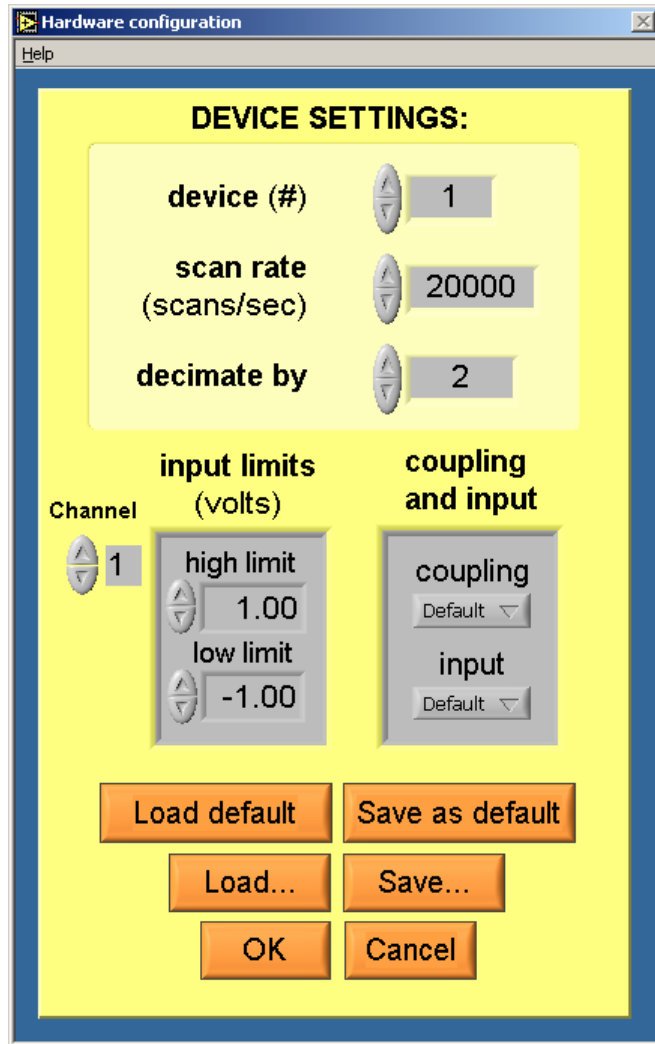
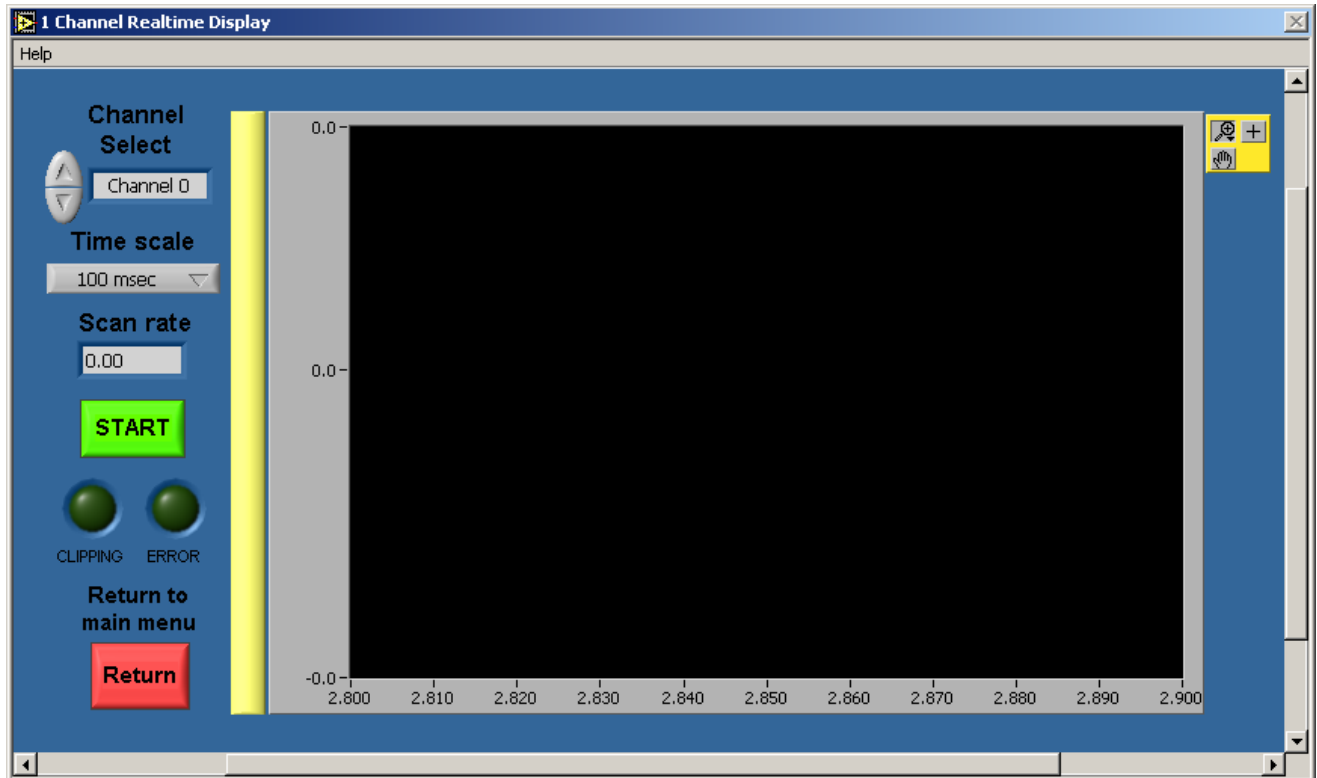

Figure 5.2. The hardware configuration screen.
Figure 5.3. Real time configuration screen.
The configuration screen is shown in Figure 5.2. Here, you can load the default setting (Load default), load any configuration file (Load...), save the current settings as the default setting (Save as default), save the current settings to a file (Save...), do nothing and leave the program (Cancel), or use the current settings for the current DAQ session without saving them to a file (OK). The configuration files can be named anything; they are stored in text format. A help menu explains all the settings available.
Figure 5.3. First, select a channel to display and a time scale to display it with. Values from 5 msec to 1000 msec may be chosen, and that amount of data will be displayed at once. This value also controls the refresh rate. The scan rate in Hz is displayed below the time scale, and is set in the hardware configuration screen (see Figure 5.2). The scan rate is the entered scan rate divided by the decimation factor.